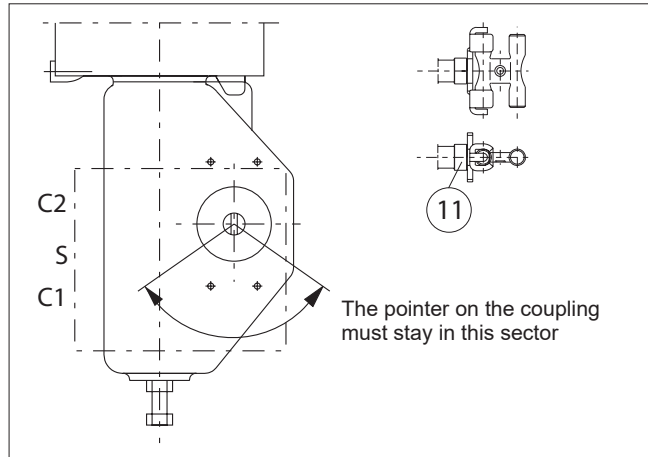

Fig. 3 Mounting on Neles actuator with VDI/VDE mounting face
- Mount the H-shaped coupling (47) to the shaft. Apply the thread-locking compound to the screw (48) and tighten firmly.
- **BJ and other single acting actuators:** mount a metal plug (53) with sealant to the C1 connection.
- Set the direction arrow of the actuator in the direction of the valve closure member and attach the ear (2) to the indicator cover in the position shown in Section 11.3. Secure the screw of the ear using e.g. Loctite and tighten firmly.
- Attach the bracket (1) to the ValvGuard.
- Attach the bracket (1) to the actuator. The shaft coupling of the ValvGuard must fit into the ear (2) so that the pointer is located in the position shown in Fig.3.